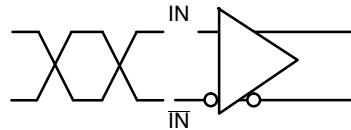

Figure 9. Differential Inputs Driven Differentially
**DIFFERENTIAL INPUTS DRIVEN DIFFERENTIALLY** (Figures 9 and 10) (Note 9)